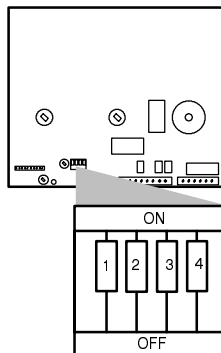

fig. 5.2
- 9 set correctly the dip-switch "2" (fig. 5.2) in accordance with the following table.